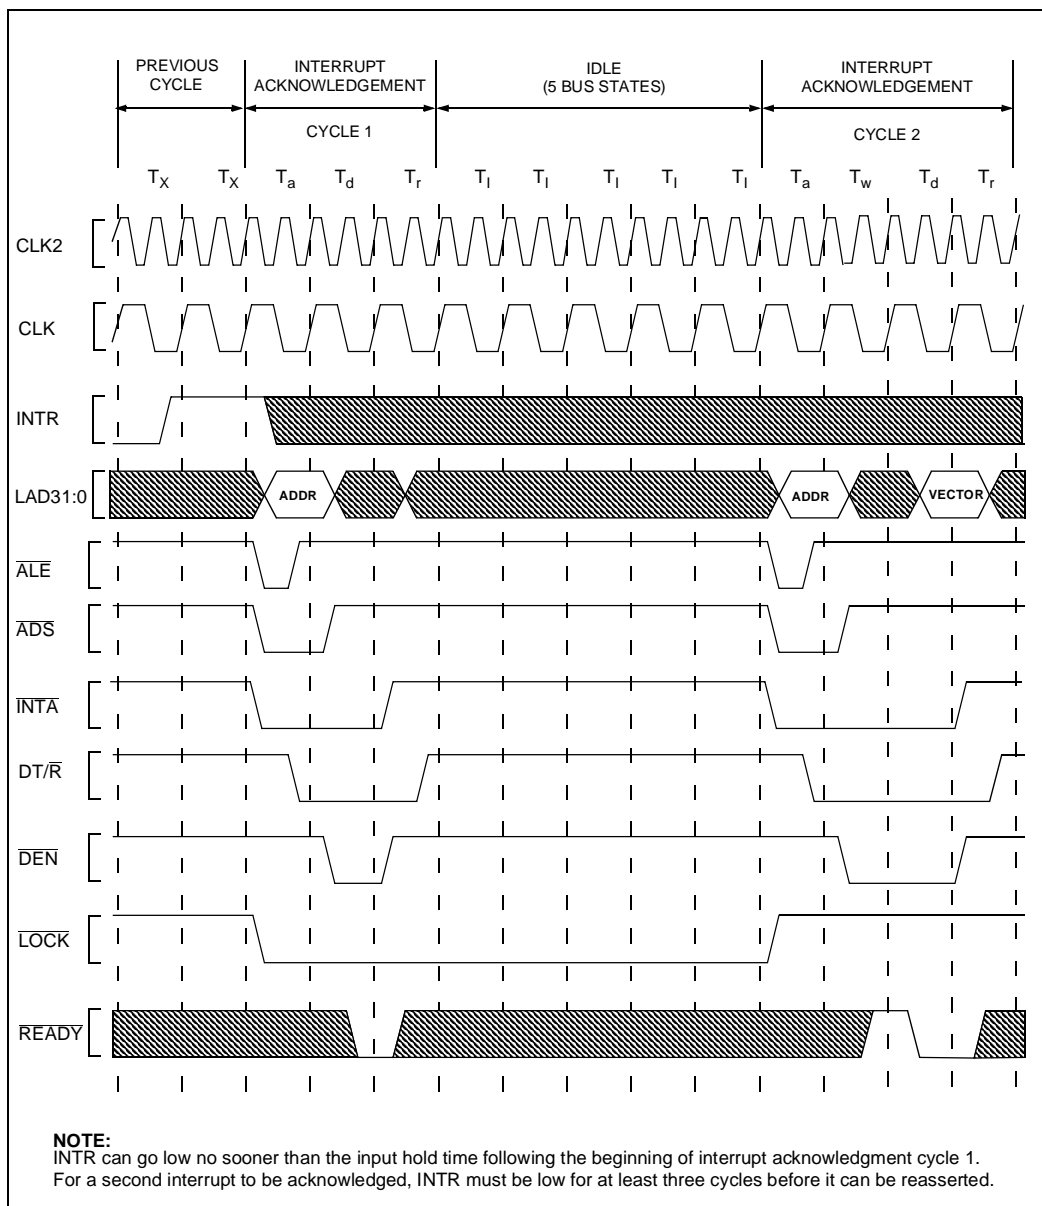

Figure 27. Interrupt Acknowledge Transaction
- Figure 27, Interrupt Acknowledge Transaction (pg. 34)